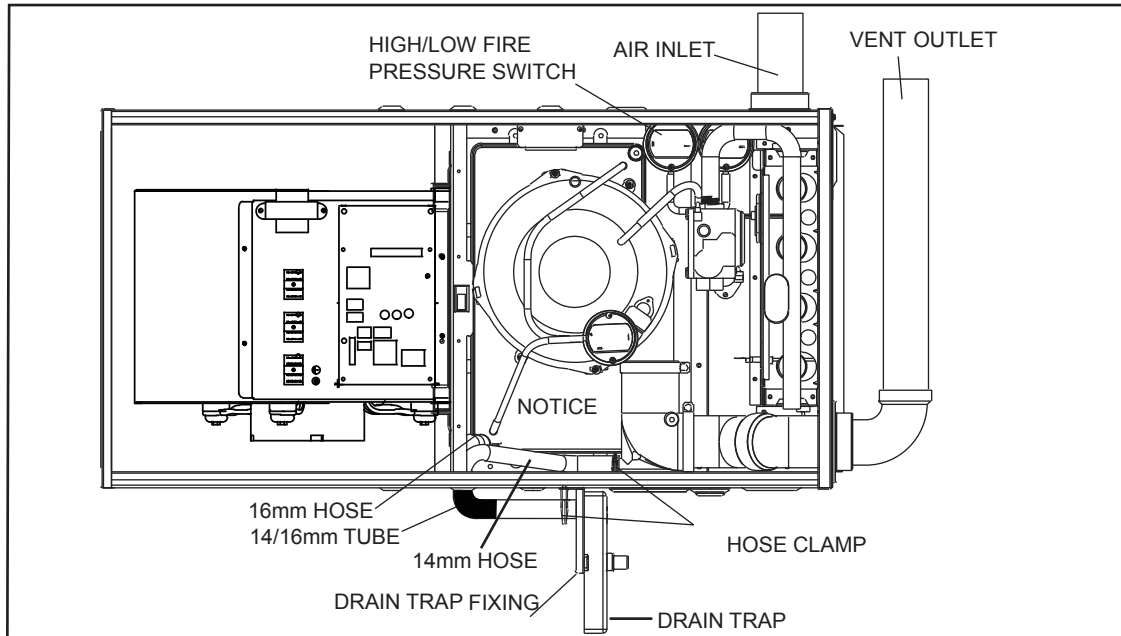

Fig. 13 - Horizontal Right Side Installation
1. Air discharge to the right and vent through furnace top panel (see Fig. 13)